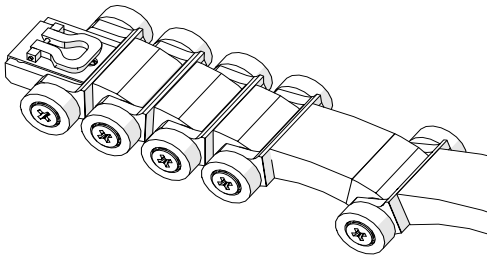

Fig. 103 - Connect wheel links to latch
3. When the number of wheel links required (according to the chain configuration chart) is more than the required links, connect the additional wheel links to the latch end of the chain configuration (Fig. 103).